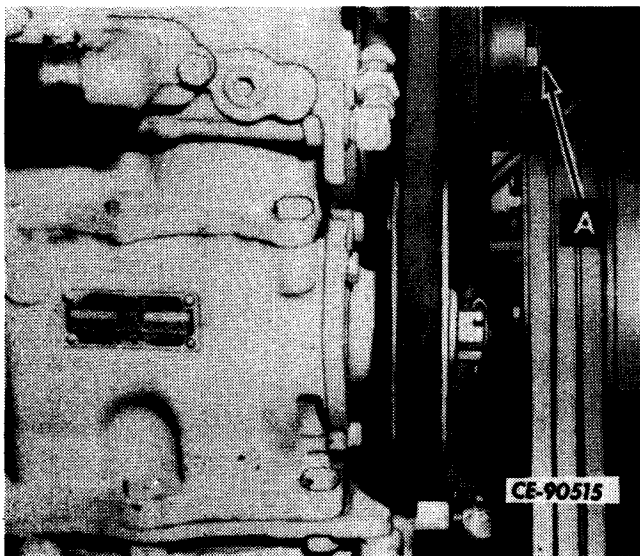

Fig. 37. Accessory Drive Nut
2. Lock the transmission shift lever in neutral (N).
4. Position a 1-5/8 in. wrench on the accessory drive nut (A, Fig. 37) and turn clockwise only as required.